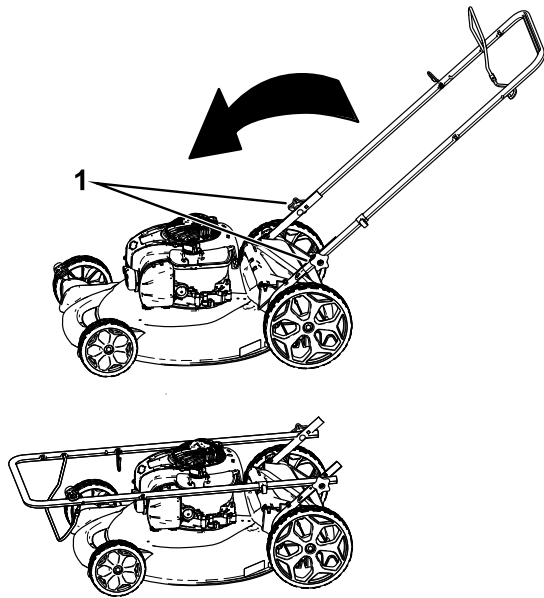

Figure 15
2. Loosen the handle knobs until you can move the handle freely (Figure 15).
1. Handle knob (2)
3. Move the handle forward as shown in Figure 15.